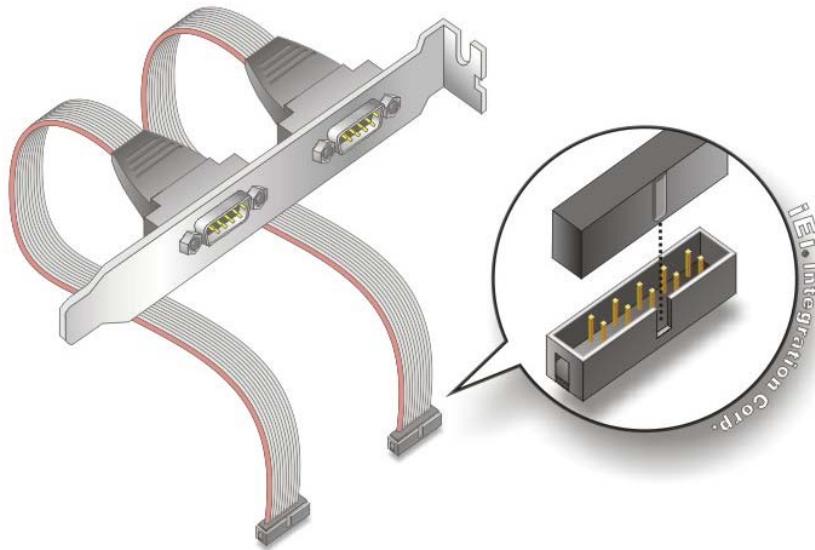

Figure 4-11: Dual RS-232 Cable Installation
Step 2: **Insert the cable connectors.** Insert one connector into each serial port box headers (**Figure 4-11**). A key on the front of the cable connectors ensures the connector can only be installed in one direction.